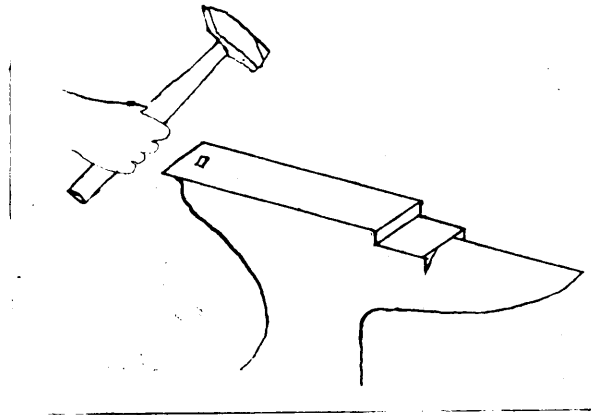

Figure 2.
1. Wrist blow is struck largely with the wrist action. (Figure 2)